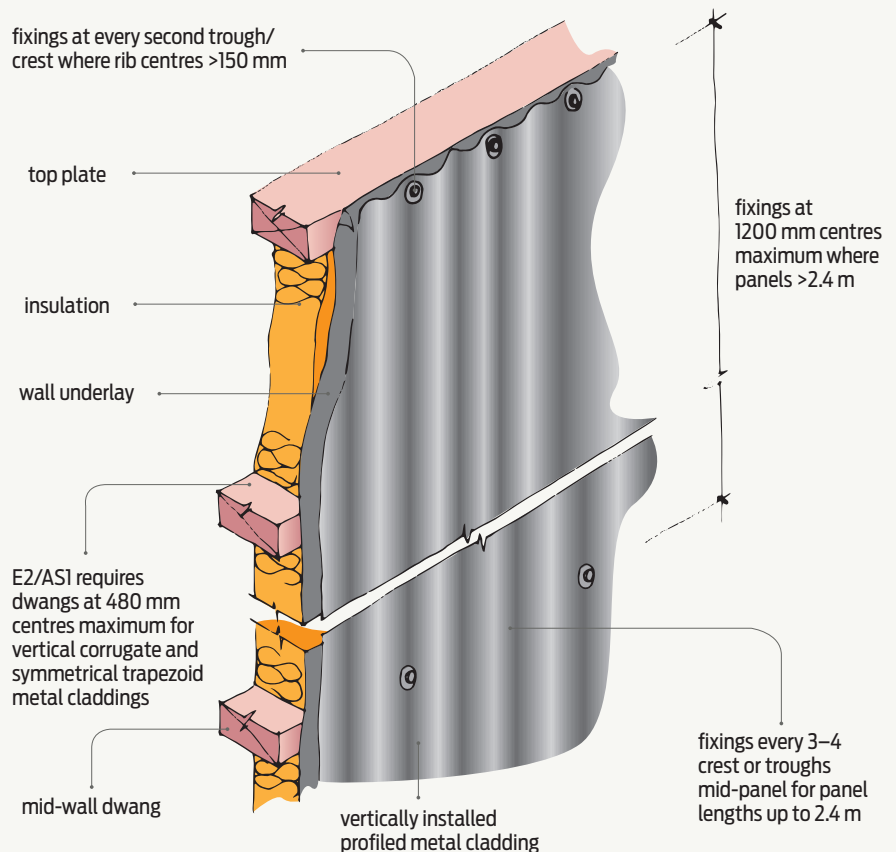

Figure 2 Fixings for vertically installed profiled metal cladding.
- over 2.4 m, intermediate rows of fixings at 1200 mm maximum centres (see Figure 2).